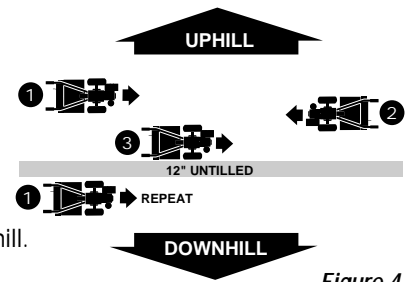

Figure 4-9
- To create a terrace, start at the top of the slope and work down. Go back and forth across the first row as shown in Figure 4-9.